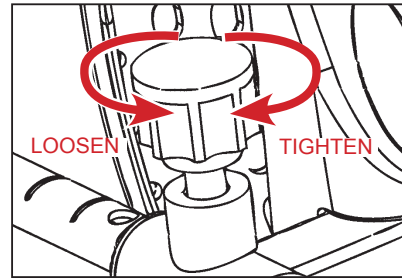

Figure 4
- Loosen the “de-rattler” function of the Pinlock Knobs by turning each counterclockwise (Figure 4).